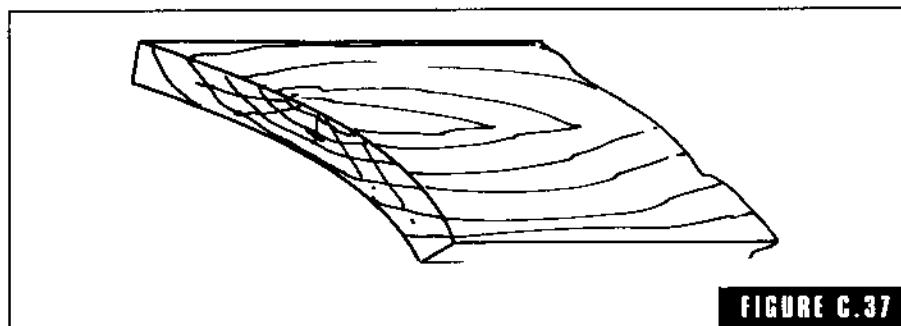

FIGURE C.37
**cupping** The tendency of flat sawed pattern lumber to curl away from the heart of the tree (Fig. C-37). This is one reason why you should buy quarter-sawn pattern lumber.